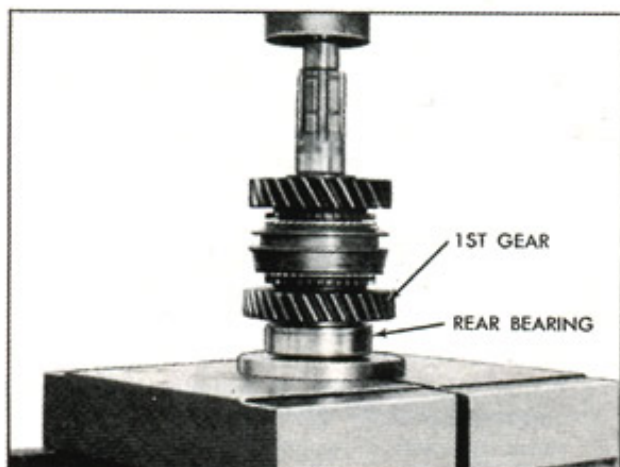

Fig. 19—Installing 1st Gear and Rear Bearing
4. Install 1st speed gear (with hub toward front) and supporting inner race, press the rear bearing onto the mainshaft with the snap ring groove toward front of the transmission (Fig. 19).